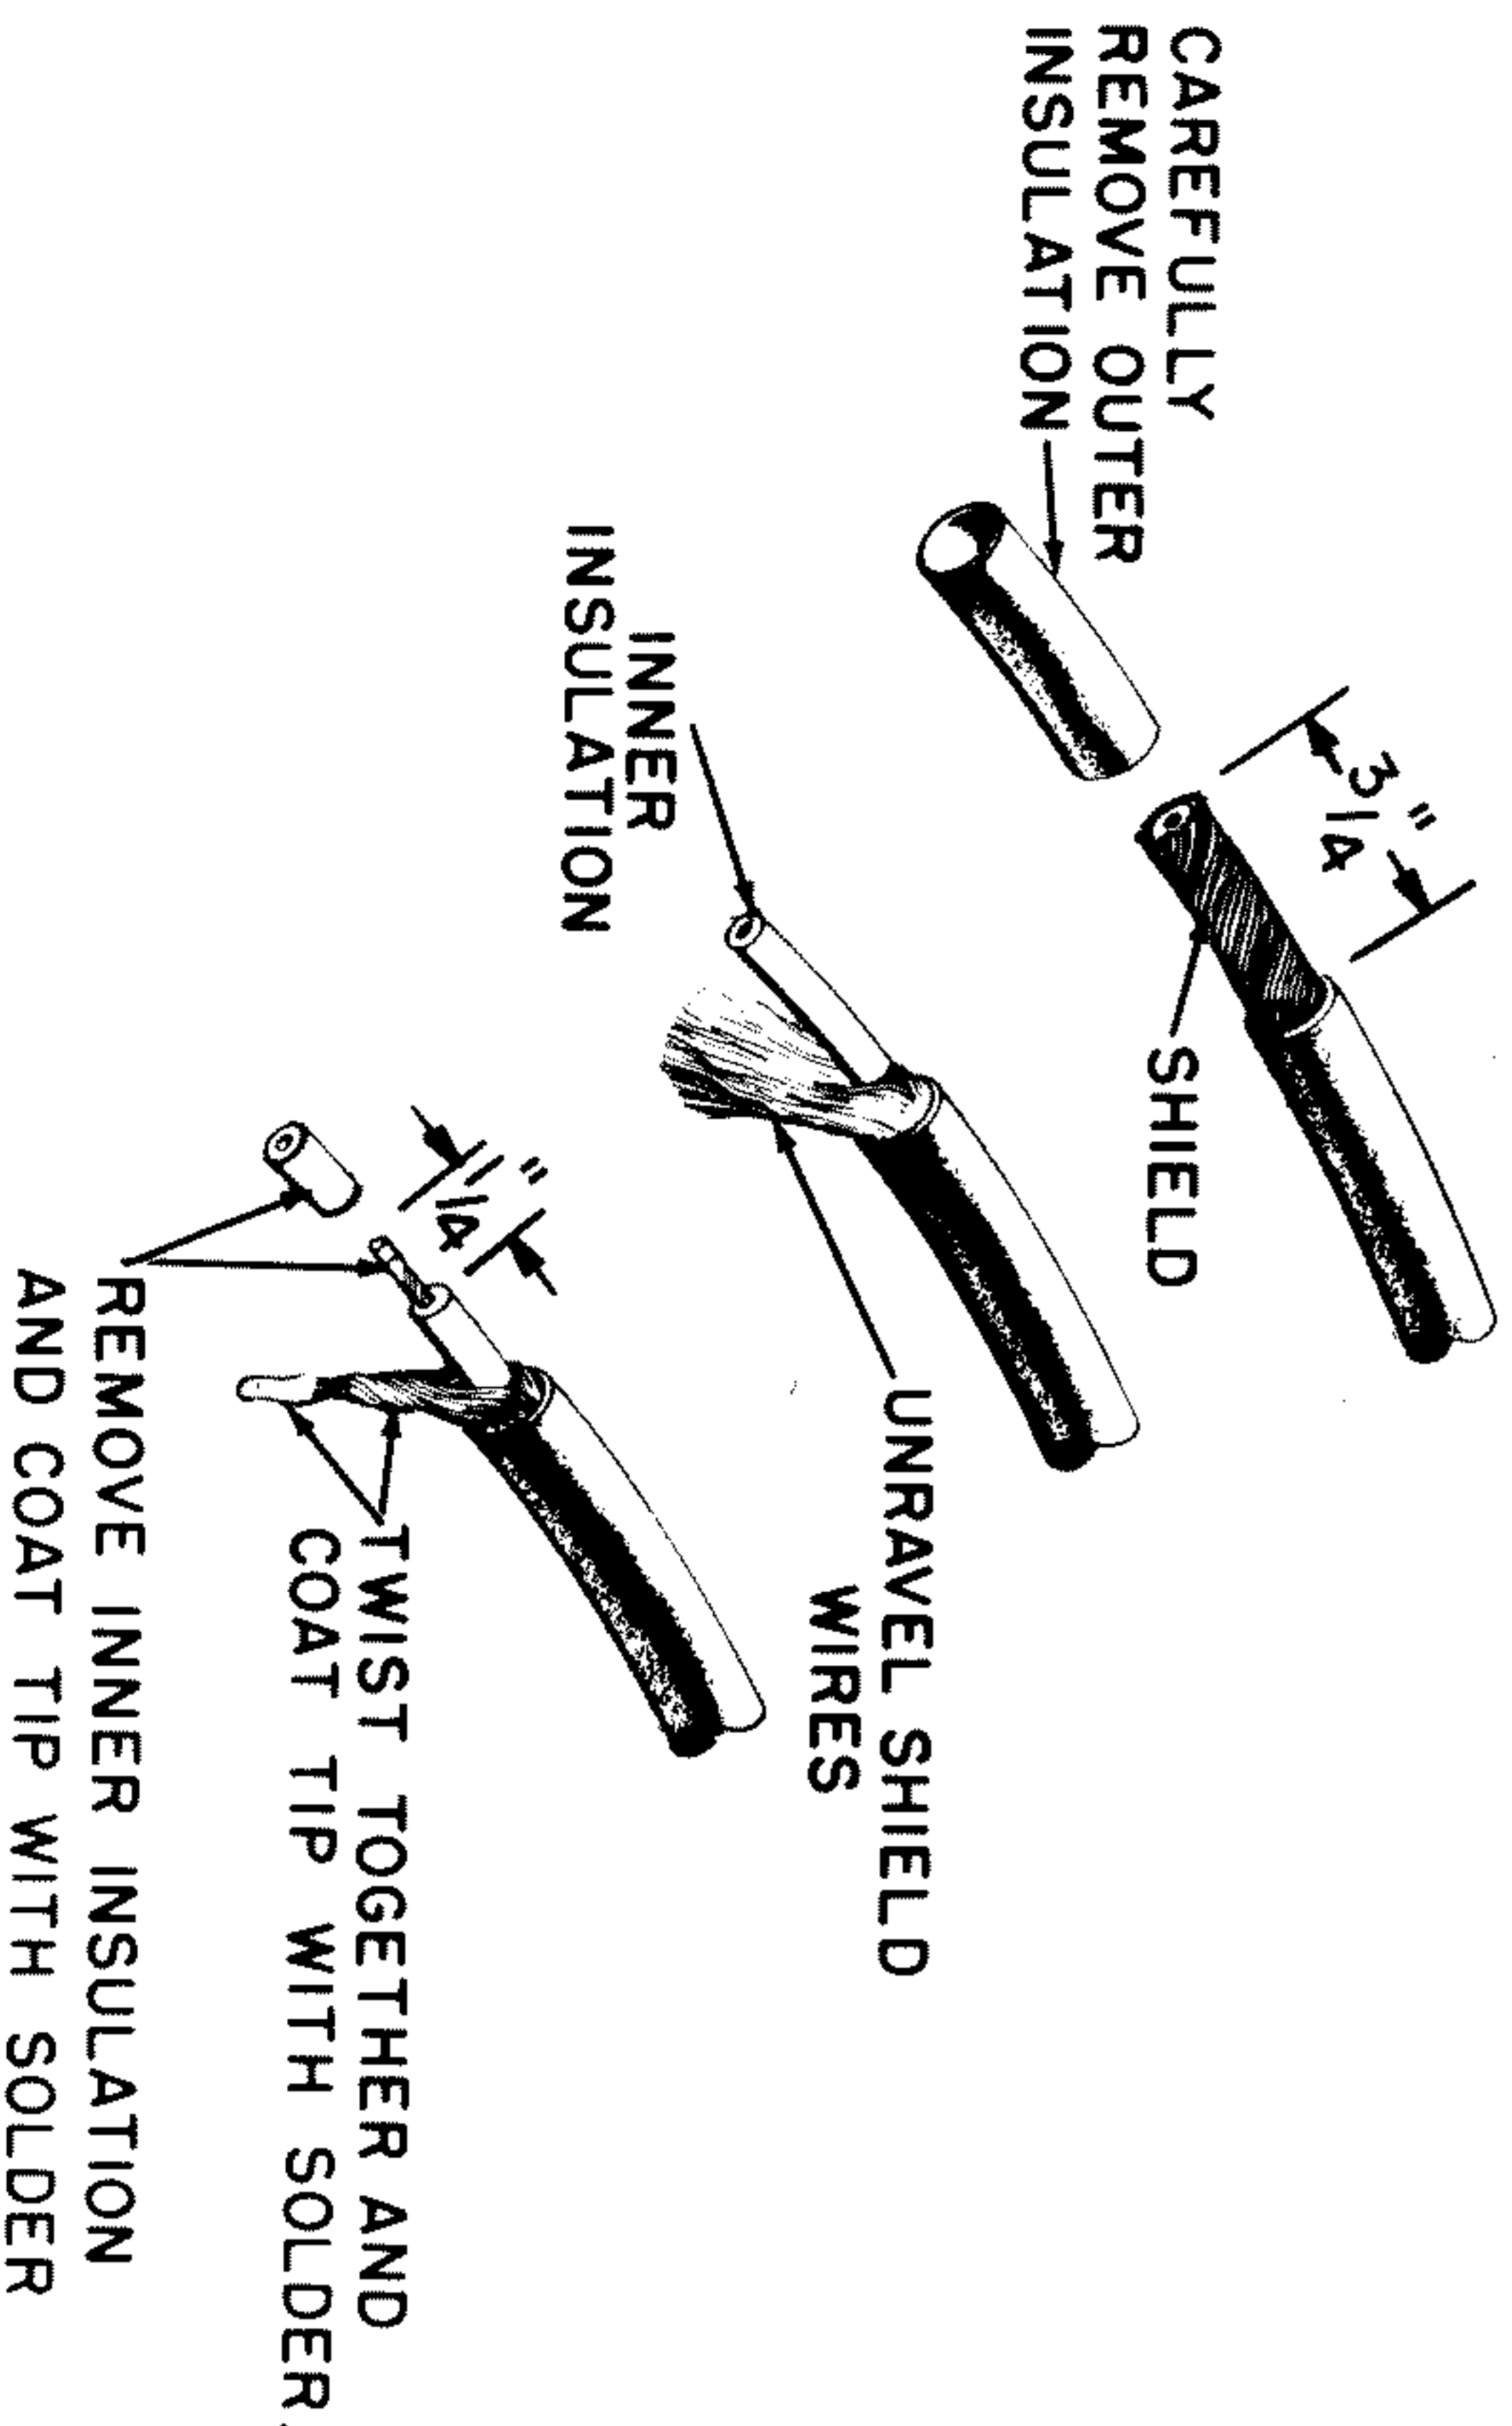

FIGURE 8
- Cut a piece of shielded wire 5" long. See Figure 8 for cable preparation. From one end, remove 1/2" of outer plastic cover and shield. Remove 1/4" of insulation from the center conductor. From the other end, remove 3/4" of plastic cover, unravel shield and twist into single conductor. Remove 1/4" of insulation from the center conductor.